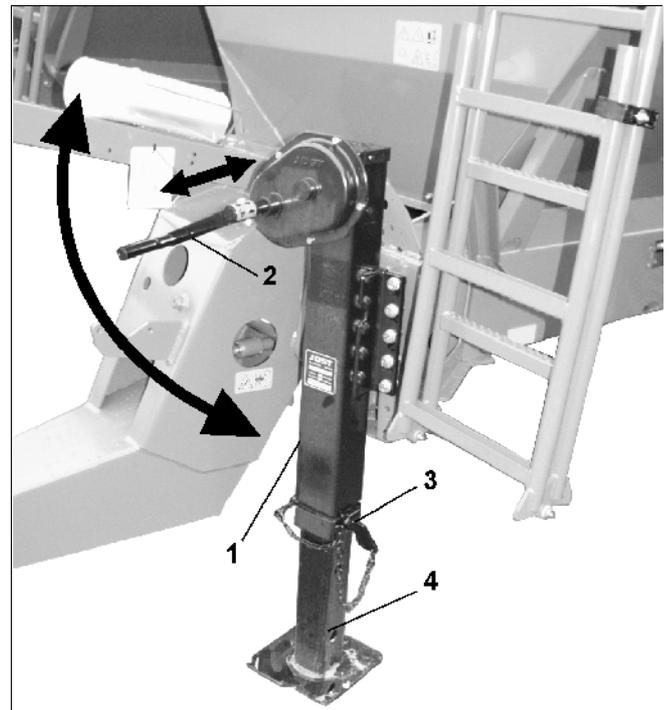

Fig. 12
- Use the hand crank (Fig. 12/2) o crank the support leg (Fig. 12/1) upwards until the stop.
- Pull the pin (Fig. 12/3) off the support leg.
- Insert pin in the lower hole (Fig. 12/4) and secure.